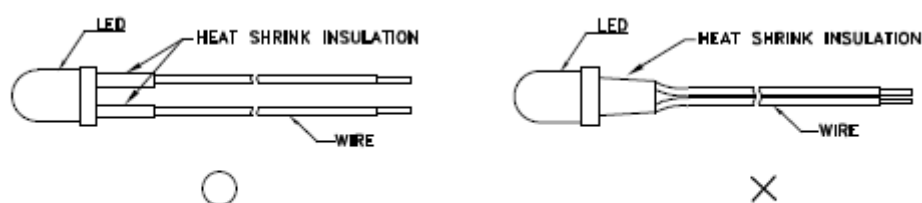

Fig. 2
2. When soldering wire to the LED, use individual heat-shrink tubing to insulate the exposed leads to prevent accidental contact short-circuit (Fig.2).